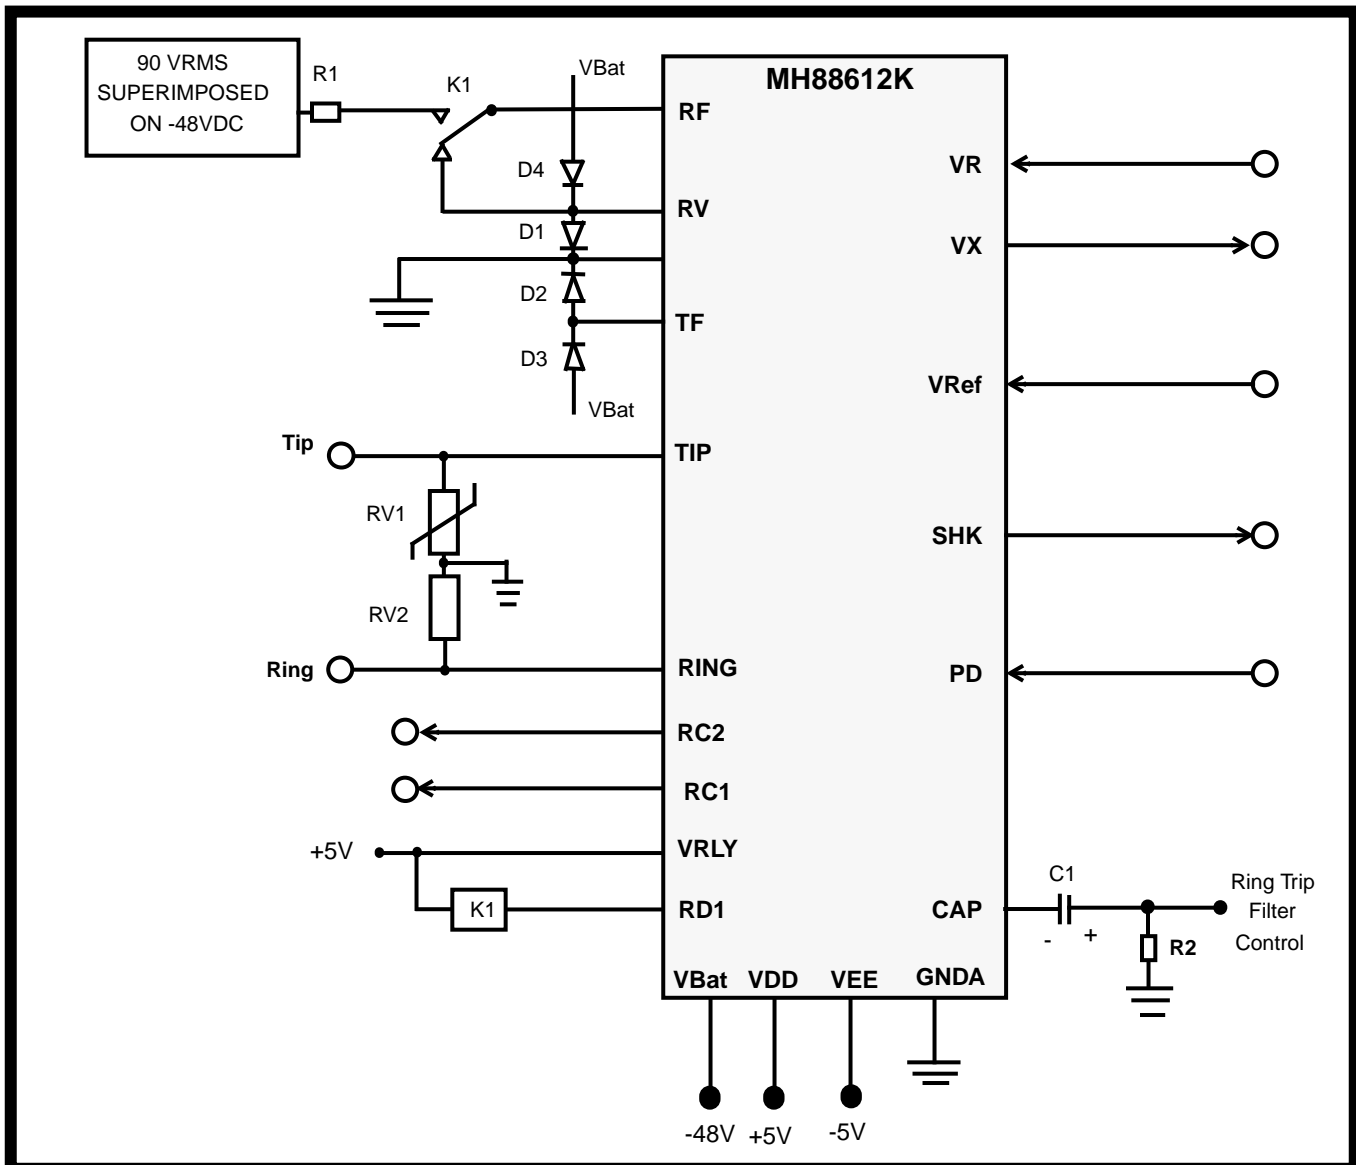

Figure 3 - Application Circuit
In Figure 3 a ringing signal (e.g., 90 Vrms +-48 Vdc is applied to the line by disconnecting (RV) from (RF), and connecting the ringing voltage at (RF) by